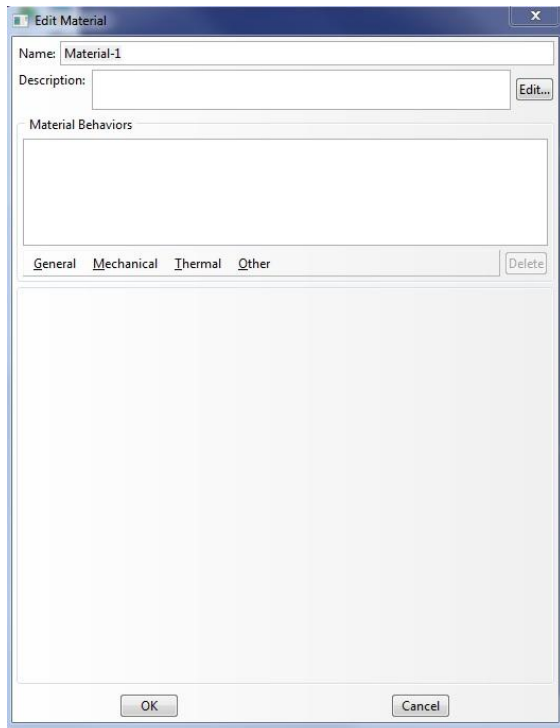
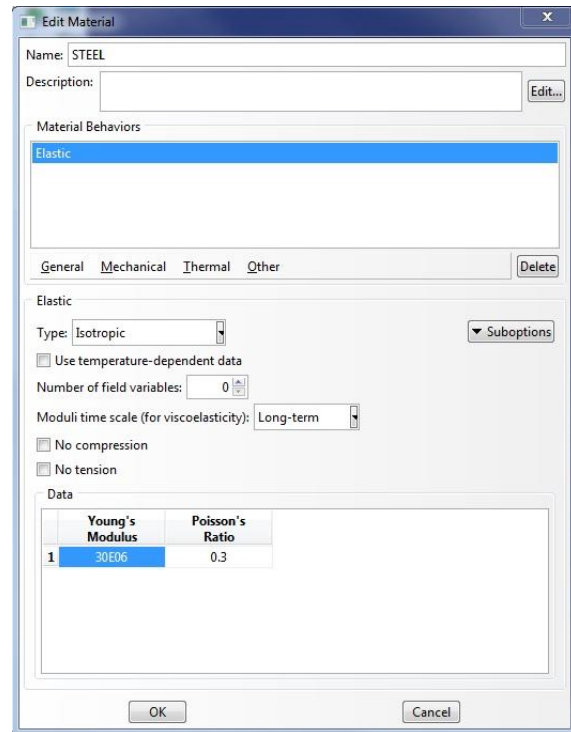

Figure 6a. Edit Material Dialog Box
Figure 6b. Edit Material Dialog Box (Steel)
- To define material properties for this model, double click on **Materials** in the model tree and the Edit Material dialog box will appear (Figure 6a). Enter a **Name** for the material (STEEL), and click the **Mechanical** tab, highlight **Elasticity** and click **Elastic**. Enter values of **Young's Modulus** = 30E06 psi, and **Poisson's Ratio** = 0.3. After the material properties have been entered, the **Edit Material** dialog box should look identical to Figure 6b.